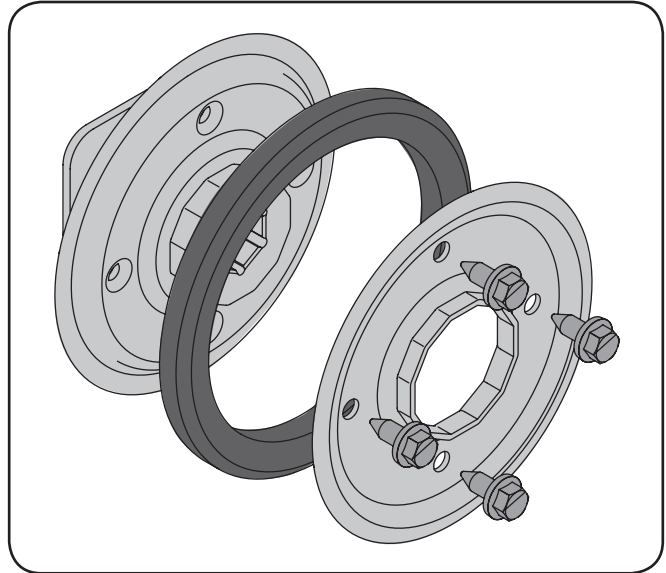

Fig. 7-12
1. Remove the four screws which secure the friction wheel's side plates together. See Fig. 7-12.